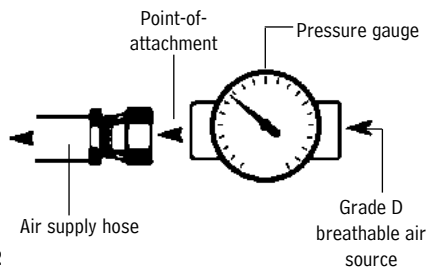

Figure 2
4. Adjust the air pressure at the point-of-attachment to within the approved pressure range (**Figure 2**). See the Air Pressure section on the front page.